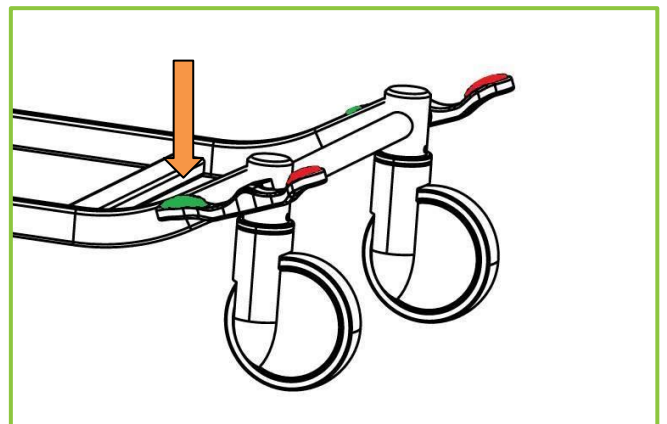

Figure 31 – Brake unlocked
2. To unlock the brake, press the front green part of the foot lever down until the brake disengages. Figure 31 shows the brake unlocked.